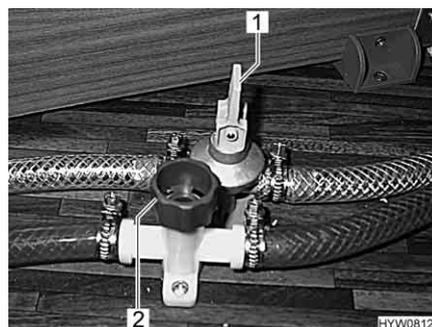

Fig. 153 Drain cocks
- Close all boiler drain cocks. To do this, position the rocking lever (Fig. 153,1) horizontally or turn the cap (Fig. 153,2) in a clockwise direction.
- Open all boiler drain cocks. To do this, position the rocking lever (Fig. 153,1) vertically or turn the cap (Fig. 153,2) in an anticlockwise direction.